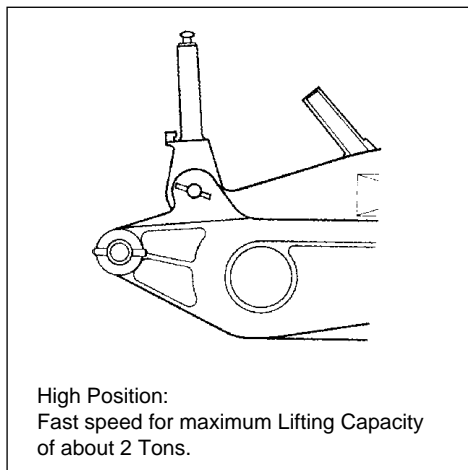

Fig. 13.1
For Fast Speed operation lift the pin on the top of the forward operating handle (2) and give the dual speed control pin (5) half a turn anti clockwise until the pin is securely located in it's new position. (see fig. 13.1)